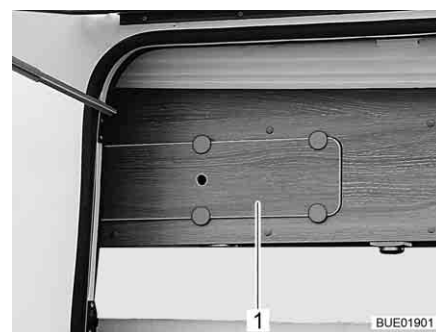

Fig. 178 Cover on the wall-mounted cupboard
- Remove the cover (Fig. 178,1).